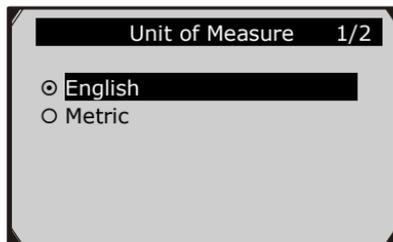

Figure 3.6
- 2) From **Unit of Measure** screen, use the **SCROLL** button to select the desired unit of measurement. (Figure 3.6)